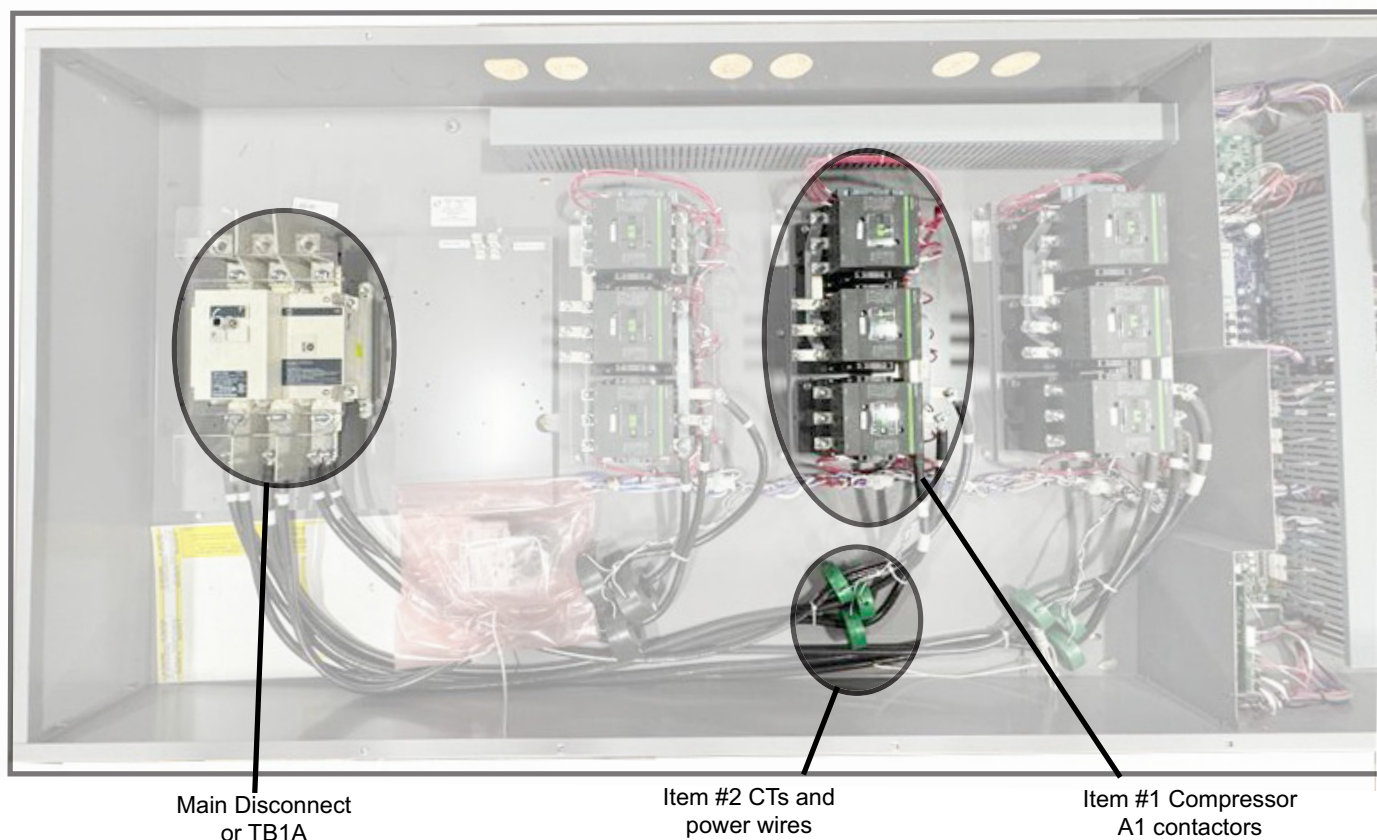

Fig. 5 — Panel Layout
1. Disconnect the power wiring from the Compressor A1 contactor. See Item #1 in Fig. 5 below for additional details.
2. Remove the CTs and power wire between the Main Disconnect/TB1A and the Circuit A1 compressor contactor(s). See Items 1 and 2 in Fig. 5. The CTs will be reused, retain them in the bottom of the enclosure for future use.
3. Remove the Circuit A1 compressor contactor (across the line) or contactors (Wye-Delta) (refer to Item #1 in Fig. 5).